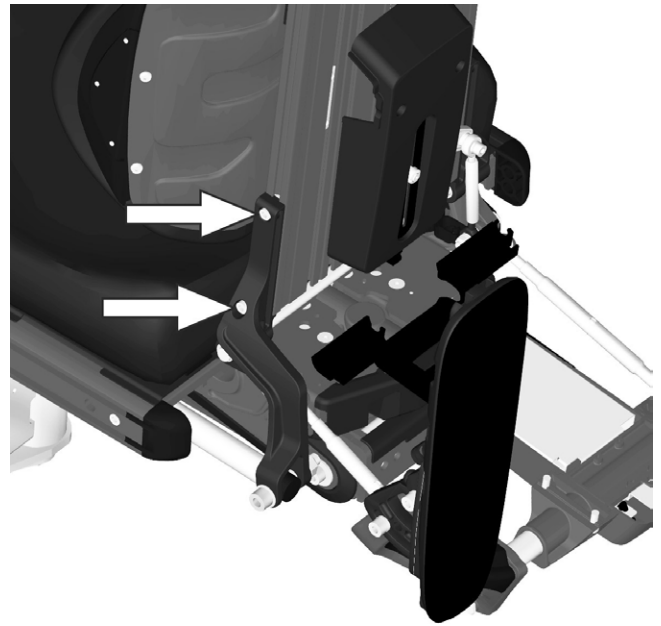

Figure 203. The backrest profile is secured using two screws on the left and right
5. Reassemble the backrest profile by fitting the bracket into the profile groove on the left and right sides. Slide the profile downwards until the stop on the bracket is touching the end of the backrest profile on both the left side and the right. Secure the backrest profile by tightening the two screws on the left and right. See fig. 203. Tighten the screws using a torque wrench. **Tightening torque 9.8 Nm / 7.2 Ft/lbs.**